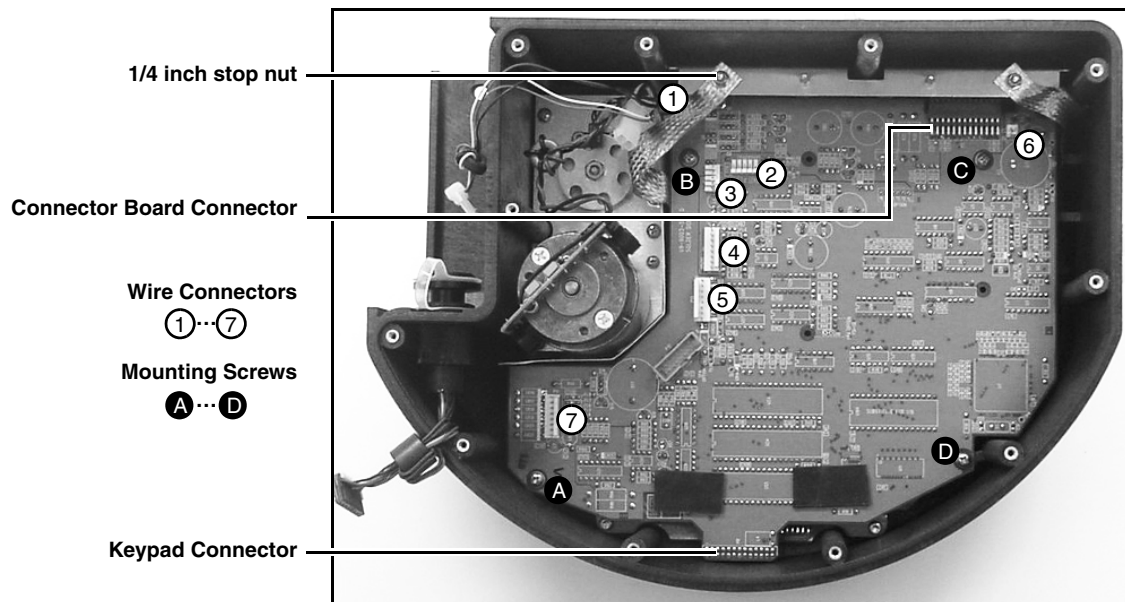

Figure 9-6 Main Circuit Board Connections
3. Remove the grounding strap by loosening the $\frac{1}{4}$ -inch stop nut (Figure 9-6).
4. Disconnect the remaining connectors from the main circuit board (Figure 9-6).